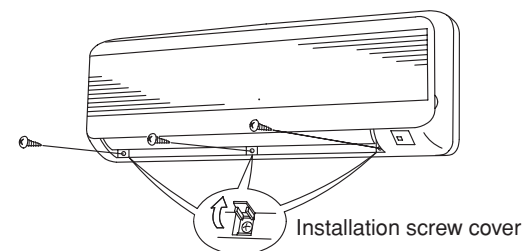

Fig. 3-120
- (3) Adjust the flap so that it is horizontal. (Fig. 3-120)
- (4) Open the installation screw covers below the grille (3 locations). (Fig. 3-120)
- (5) Remove the screws. (Fig. 3-120)